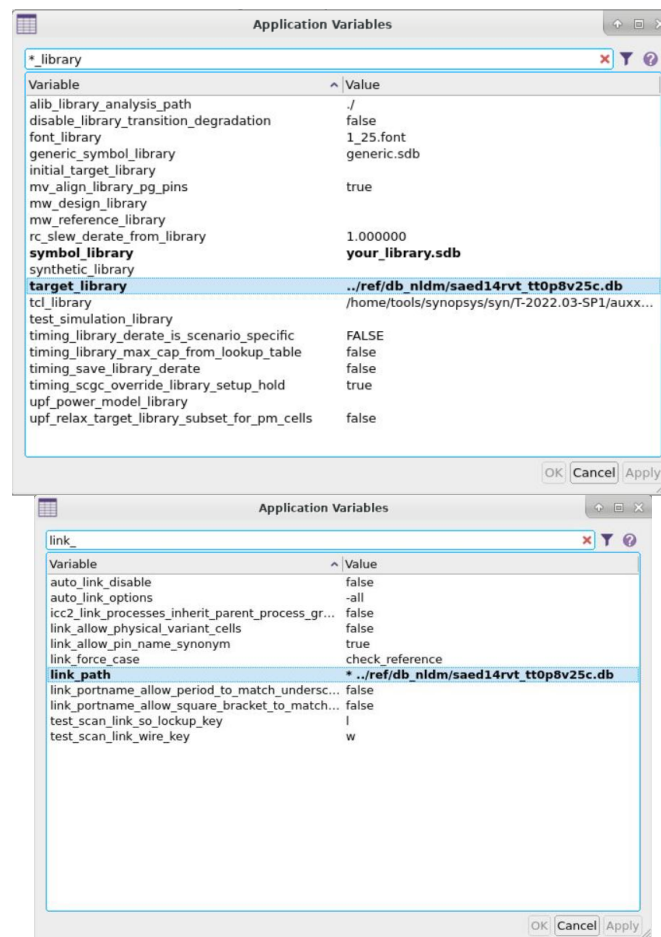
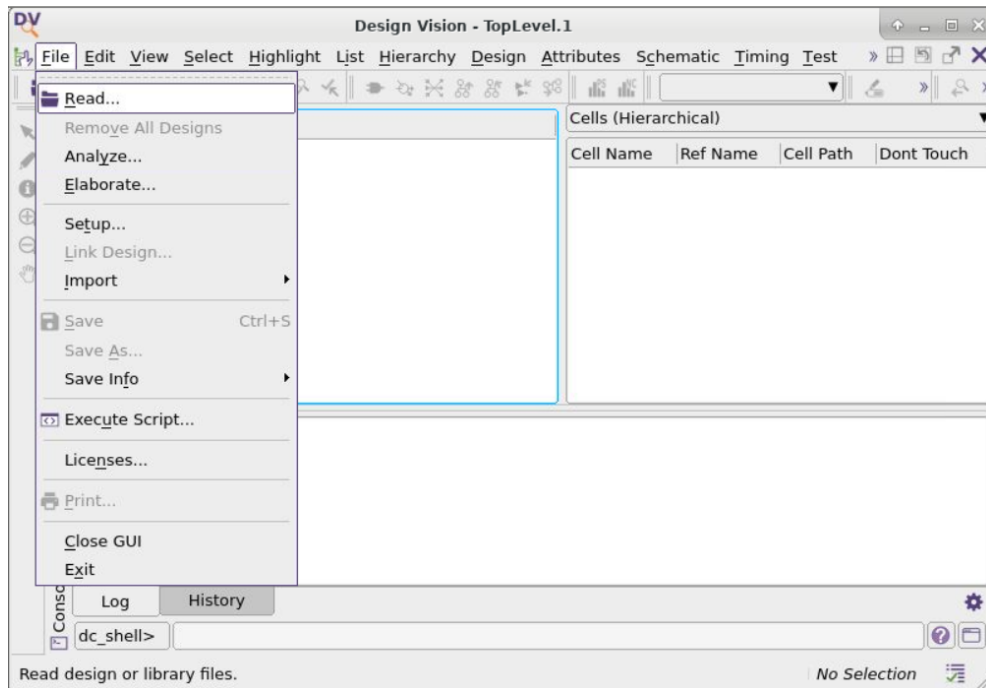

Fig. 4. Application setup window.
Fig. 5. Read design.
- When Design Compiler starts it automatically reads “.synopsys_dc.setup” file from the current directory. In this lab this file is located in the **syn** directory. Start Design Compiler from that directory to automatically read the file and set up the libraries. To check whether the libraries were set open **File> Setup** window (Fig. 4).
- 3.1. Read design commands are derived from the `read_file -format VHDL` or `read_file -format Verilog` commands (Fig. 5). In the design, format Verilog was used (Fig.4).